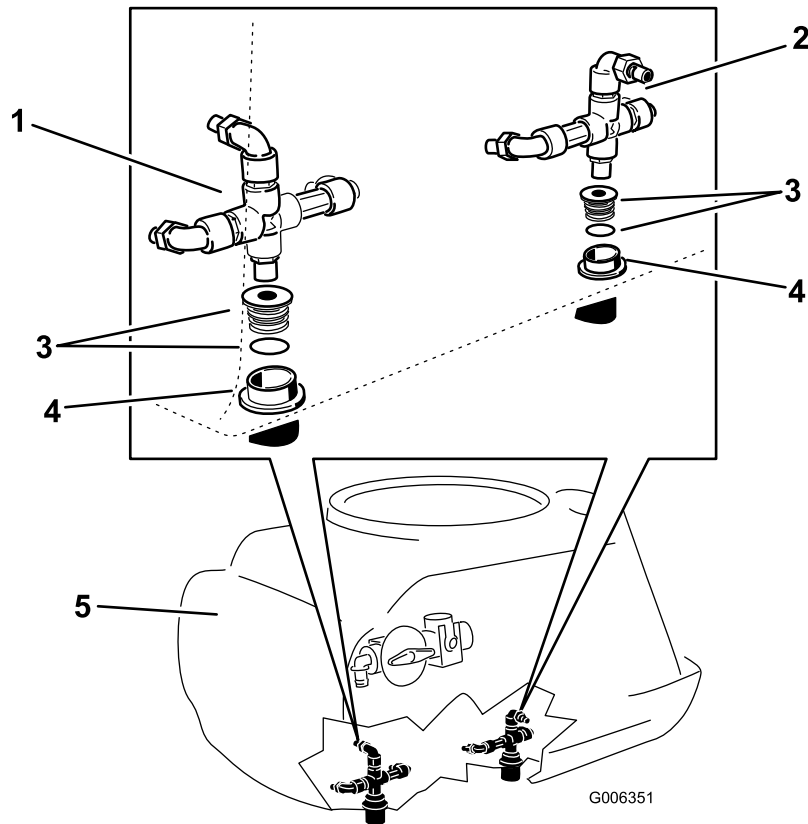

Figure 5
2. Install the nozzles as shown in Figure 5 and secure nozzles using the retaining forks removed previously.
3. Install the agitation reducer to the upper tee as shown in Figure 5